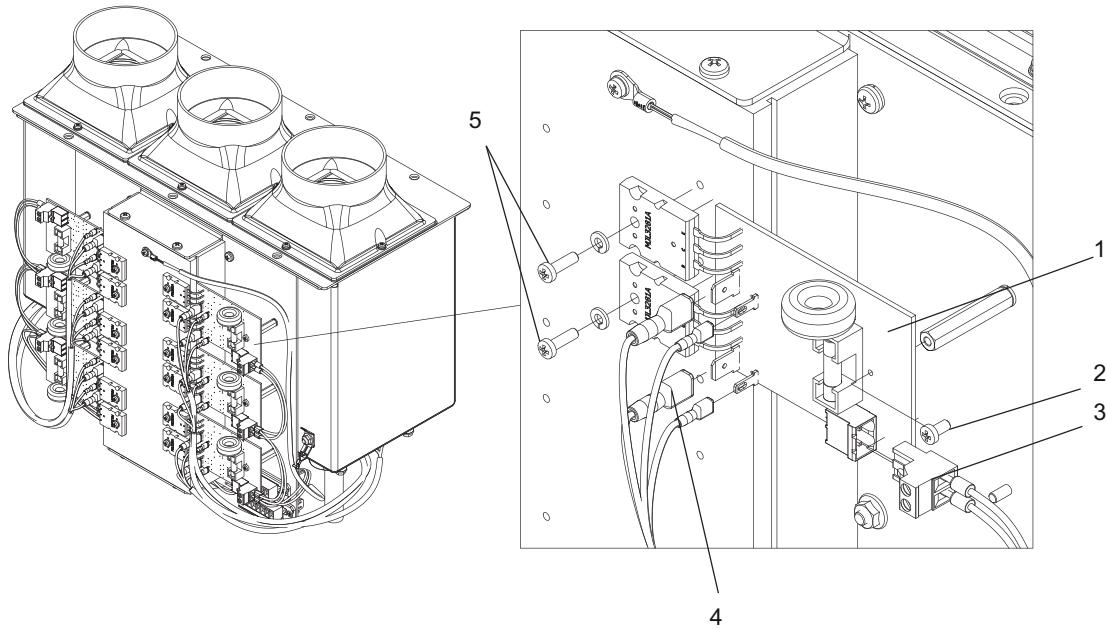
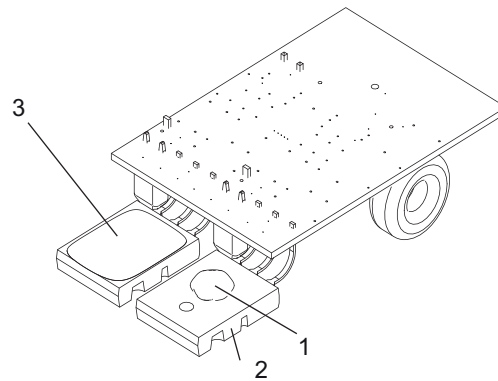

Figure 26 - Replacing the Transducer Driver Board
Figure 27 - Applying Thermal Paste to the Driver Board
Remove the transducer driver board as follows. Refer to Figure 26 - on the next page.
Install the transducer driver board as follows. Refer to Figure 26 - on the next page and Figure 27 - on the next page.
1. Apply thermal paste on the transistors. Start with a dot of thermal paste and evenly spread the paste on the transistors. Refer to Figure 27 - on the next page.